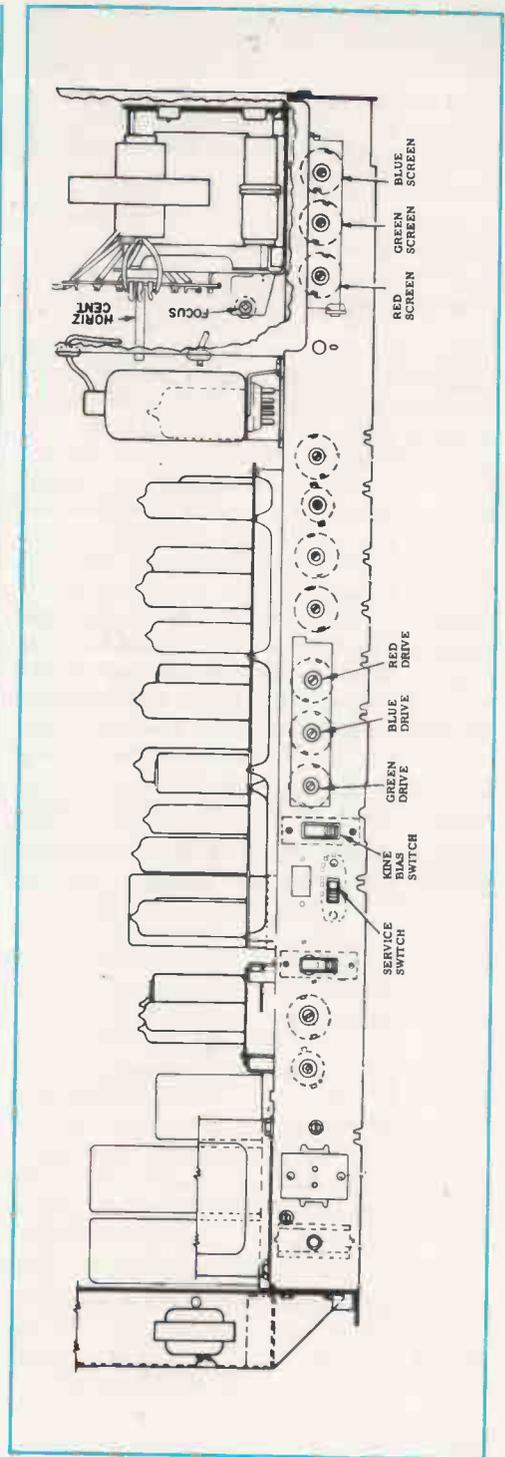

FIG. 3-38. Rear apron of a typical chassis showing location of the black-and-white setup controls.
Step 1. Turn all three screen grid controls fully CCW. Refer to Fig. 3-38.